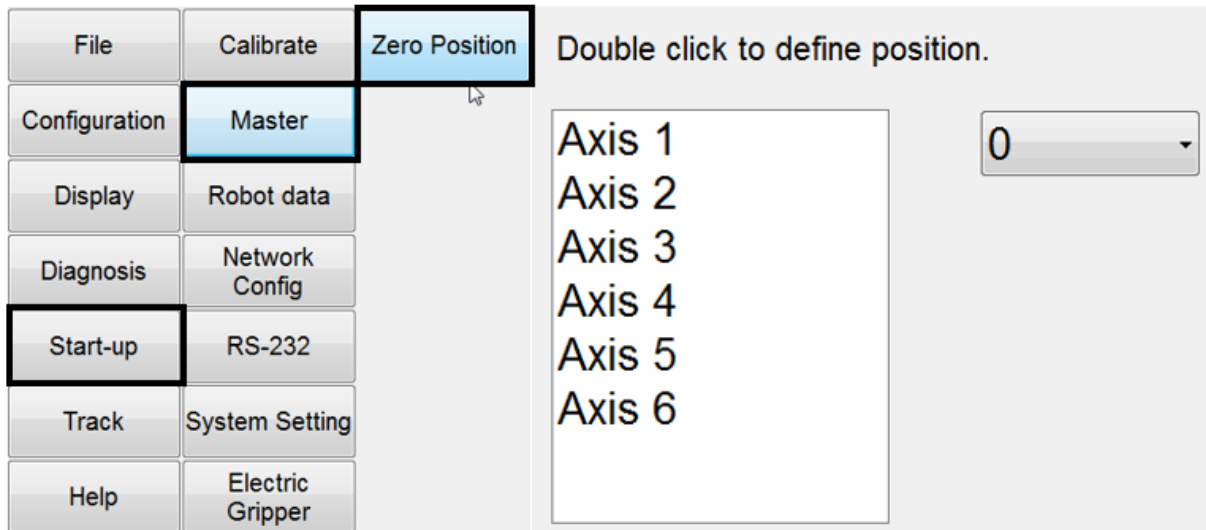

Figure 4-8 Clear encoder by HRSS
④ Clear encoder by HRSS
Step3: Click Main Menu>>Start-up>>Master>>Zero Position. (As shown in Figure 4-8)
Step4: Double click the axis to clear encoder. (As shown in Figure 4-8)